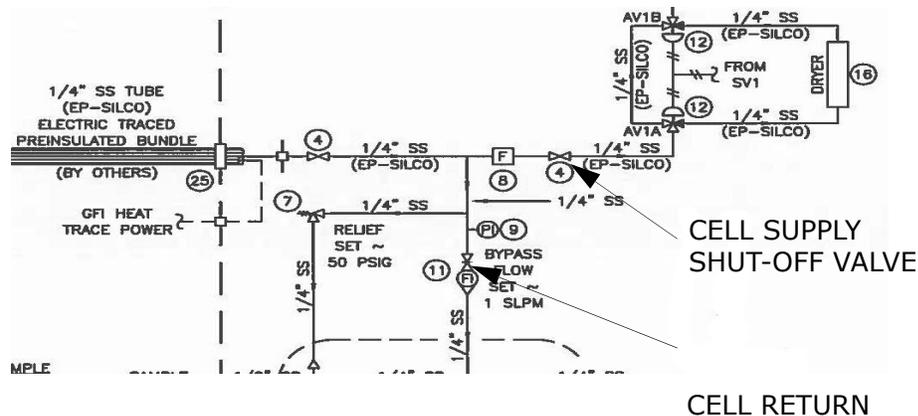

Figure 4-1 Cell supply and cell return shut-off valves
2. Open the cell supply and cell return shut-off valves. Refer to Figure 4-1 below.
- 2.** Close the cell supply and cell return shut-off valves. Refer to Figure 4-1 on page 4-7.
4. Close the bypass supply shut-off valve. Refer to Figure 4-1 on page 7.